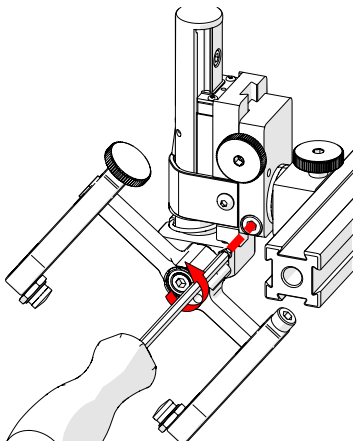

Fig. 45 - Loosen 3 mm screw
2. Using the supplied 3 mm hex driver (*Fig. 15*), loosen the longitudinal adjustment screw (*Fig. 45*).